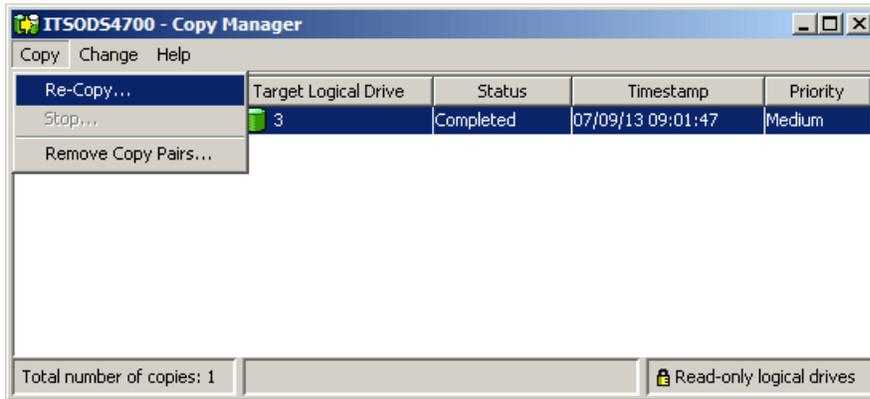

Figure 9-13 Copy Manager: Re-Copy menu
3. Select either the **Logical Drive** → **VolumeCopy** → **Copy_Manager** pull-down menu option or **Copy Manager** from the right-mouse pop-up menu. The Copy Manager window is displayed, as shown in Figure 9-13.